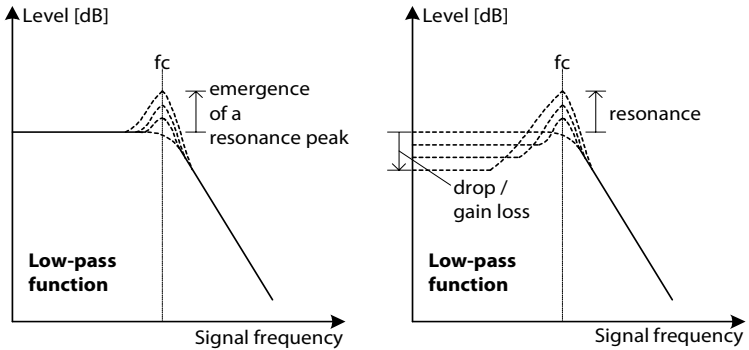

Fig. 5
Fig. 5 shows the effect of the **Resonance** and **Drop** parameters of a low-pass filter.
**Drop:** This function is also pretty unique. You will love it since it very effectively compensates a phenomenon that is not only common on most synthesizer filters, but also unwanted at that: With low-pass filters, the level of the signal passed through usually drops significantly when increasing resonance – resulting in a weak-sounding bottom end. On the CS8, you can work against this effect by using the Drop control. It adjusts the boost of the signal passed through between -12 dB and 0 dB (also see fig. 5 top).